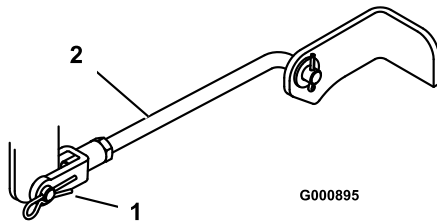

Figure 50
5. Remove the hairpin cotter and clevis pin from the front trunion yokes (Figure 50).
8. Attach the front trunion rods to the tractor with the clevis pins and hairpin cotters (Figure 50).